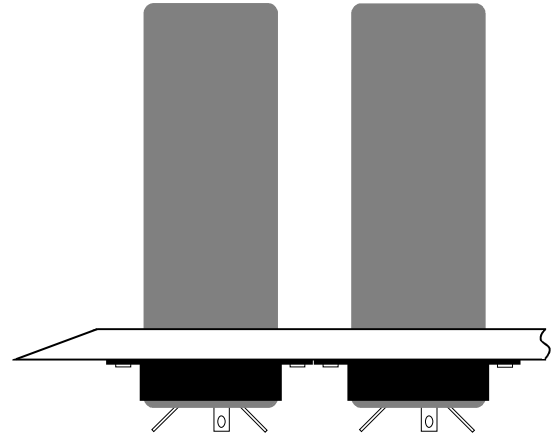

Figure 7
5) Refer to figure 7 for the following steps.
Mount the Blackgate WZK capacitors C3 and C4 to the chassis plate using the supplied hardware. This step is most easily done by first attaching the clamp to the capacitor and tightening the screw and nut securely. Once again, it is important to get these tight now because it will be very difficult to tighten them later, should they become loose. The terminal end of the capacitor should protrude just above the clamp, refer to figure 7.